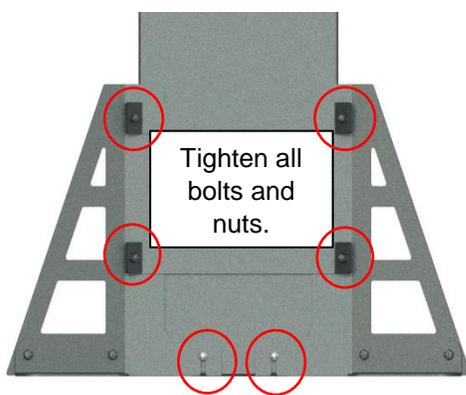

Figure 67
- 10) Tighten all bolts and nuts installed from steps 3 to 8 for both post assemblies. (Figure 67)